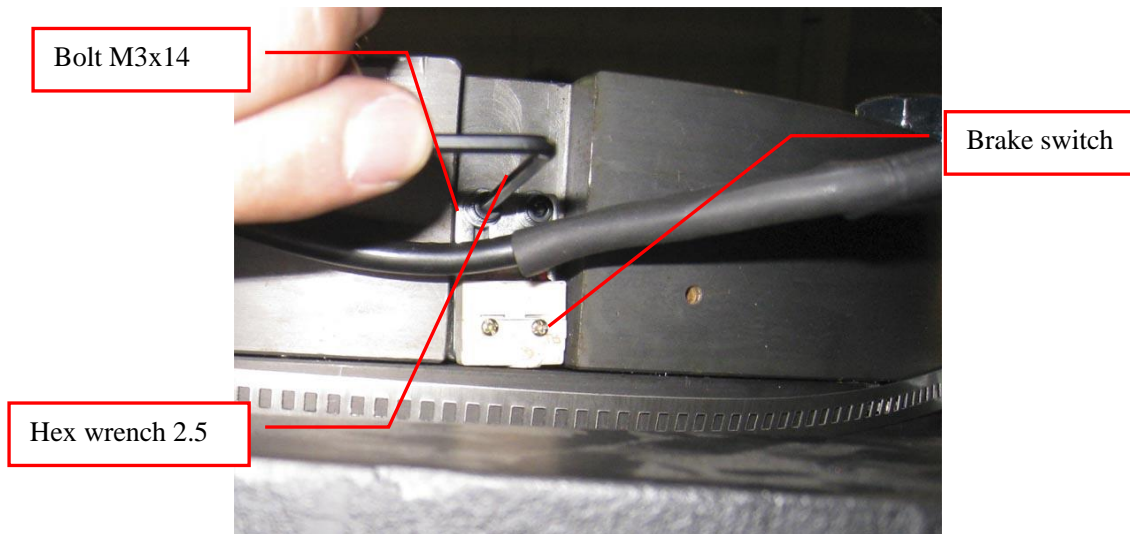

Figure 22: Brake Switch removal
3. Remove the bolt M3x14 with the hex wrench (2.5mm), then take off the brake switch from brake. See Figure 22.